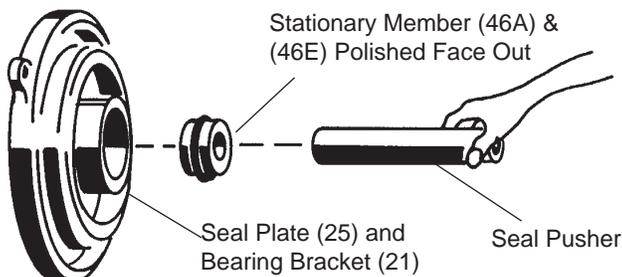

FIGURE 7
Seal - Clean and oil seal cavities in bearing bracket (21) and seal plate (25). Lightly oil (**DO NOT use grease**) outer surface of inboard stationary member (46E) and outboard stationary member (46A). Press inboard stationary member (46E) firmly into bearing bracket (21) and outboard stationary (46A) into seal plate (25), using a seal pusher (see parts list- seal tool kit), nothing but the seal pusher is to come in contact with seal face (See Figure 7).